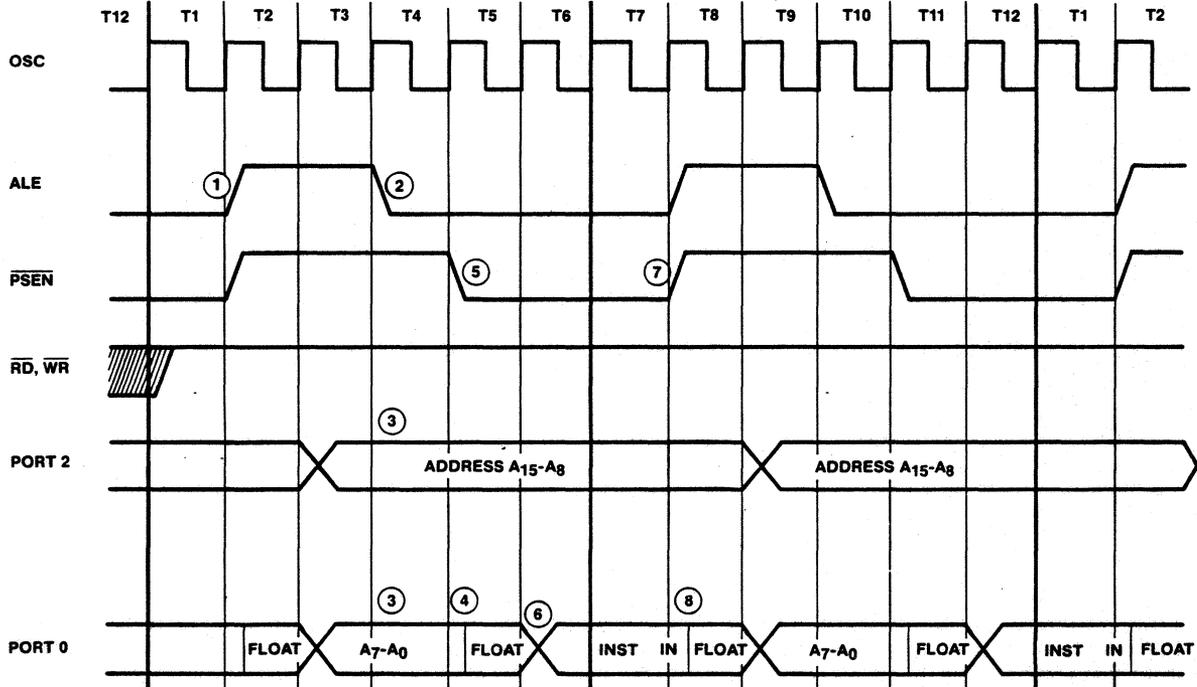

Figure 2.41. Program Memory Read Cycle Timing
Each Program Memory bus cycle consists of six oscillator periods. These are referred to as T1, T2, T3, T4, T5 and T6 on Figure 2.41. The address is emitted from the processor during T3. Data transfer occurs on the bus during T5, T6 and the following bus cycle's T1. When fetching from external Program Memory, the 8051 will always fetch an even number of bytes. If an odd number of bytes are executed prior to a branch or an External Data Memory access the non-executed byte will be ignored by the 8051. An even number of idle bus cycles (each 6 oscillator periods in duration) can occur between external bus cycles when the processor is fetching from internal Program Memory. The read cycle begins during T2, with the assertion of address latch enable signal ALE (1). The falling edge of ALE (2) is used to latch the address information, which is present on the bus at this time (3), into the 8282 latch if a non-multiplexed bus is required. At T5, the address is removed from the Port 0 bus and the processor's bus drivers go to the high-impedance state (4). The program memory read control signal $\overline{\text{PSEN}}$ (5) is also asserted during T5. $\overline{\text{PSEN}}$ causes the addressed device to enable its bus drivers to the now-released bus. At some later time, valid instruction data will become available on the bus (6). When the 8051 subsequently returns $\overline{\text{PSEN}}$ to the high level (7), the addressed device will then float its bus drivers, relinquishing the bus again (8).